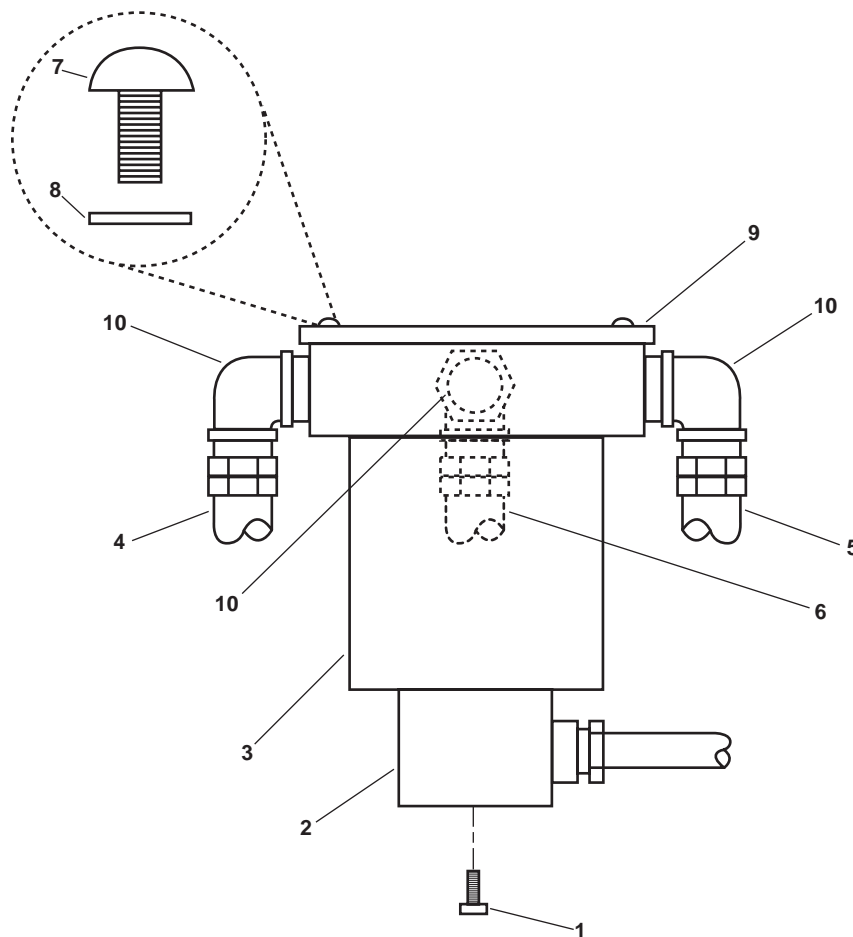

Figure 8. Product Water Diverter Valve
8. Remove the screw (figure 8, item 1) that secures the wire plug (figure 8, item 2) to the product water diverter valve (figure 8, item 3).
9. Pull the wire plug (figure 8, item 2) straight off of the product water diverter valve (figure 8, item 3).
10. Label and disconnect the tubing (figure 8, items 4, 5 and 6) from the product water diverter valve (figure 8, item 3).
11. Remove the four screws (figure 8, item 7) and four flat washers (figure 8, item 8) that secure the product water diverter valve (figure 8, item 3) to its foundation (figure 8, item 9).
12. Remove the pipe fittings (figure 8, item 10) from the product water diverter valve (figure 8, item 3). Retain the pipe fittings.
1. Wrap the male threads of the pipe fittings (figure 8, item 10) with four wraps of antiseizing tape.
2. Thread the pipe fittings (figure 8, item 10) into place on the product water diverter valve (figure 8, item 3), and tighten snugly into place.
3. Position the product water diverter valve (figure 8, item 3) on its foundation (figure 8, item 9), and secure it in place with four screws (figure 8, item 7) and four flat washers (figure 8, item 8).
4. Connect the tubing (figure 8, items 4, 5 and 6) to the product water diverter valve (figure 8, item 3).
5. Slide the wire plug (figure 8, item 2) onto the product water diverter valve (figure 8, item 3), and secure it in place with the screw (figure 8, item 1).